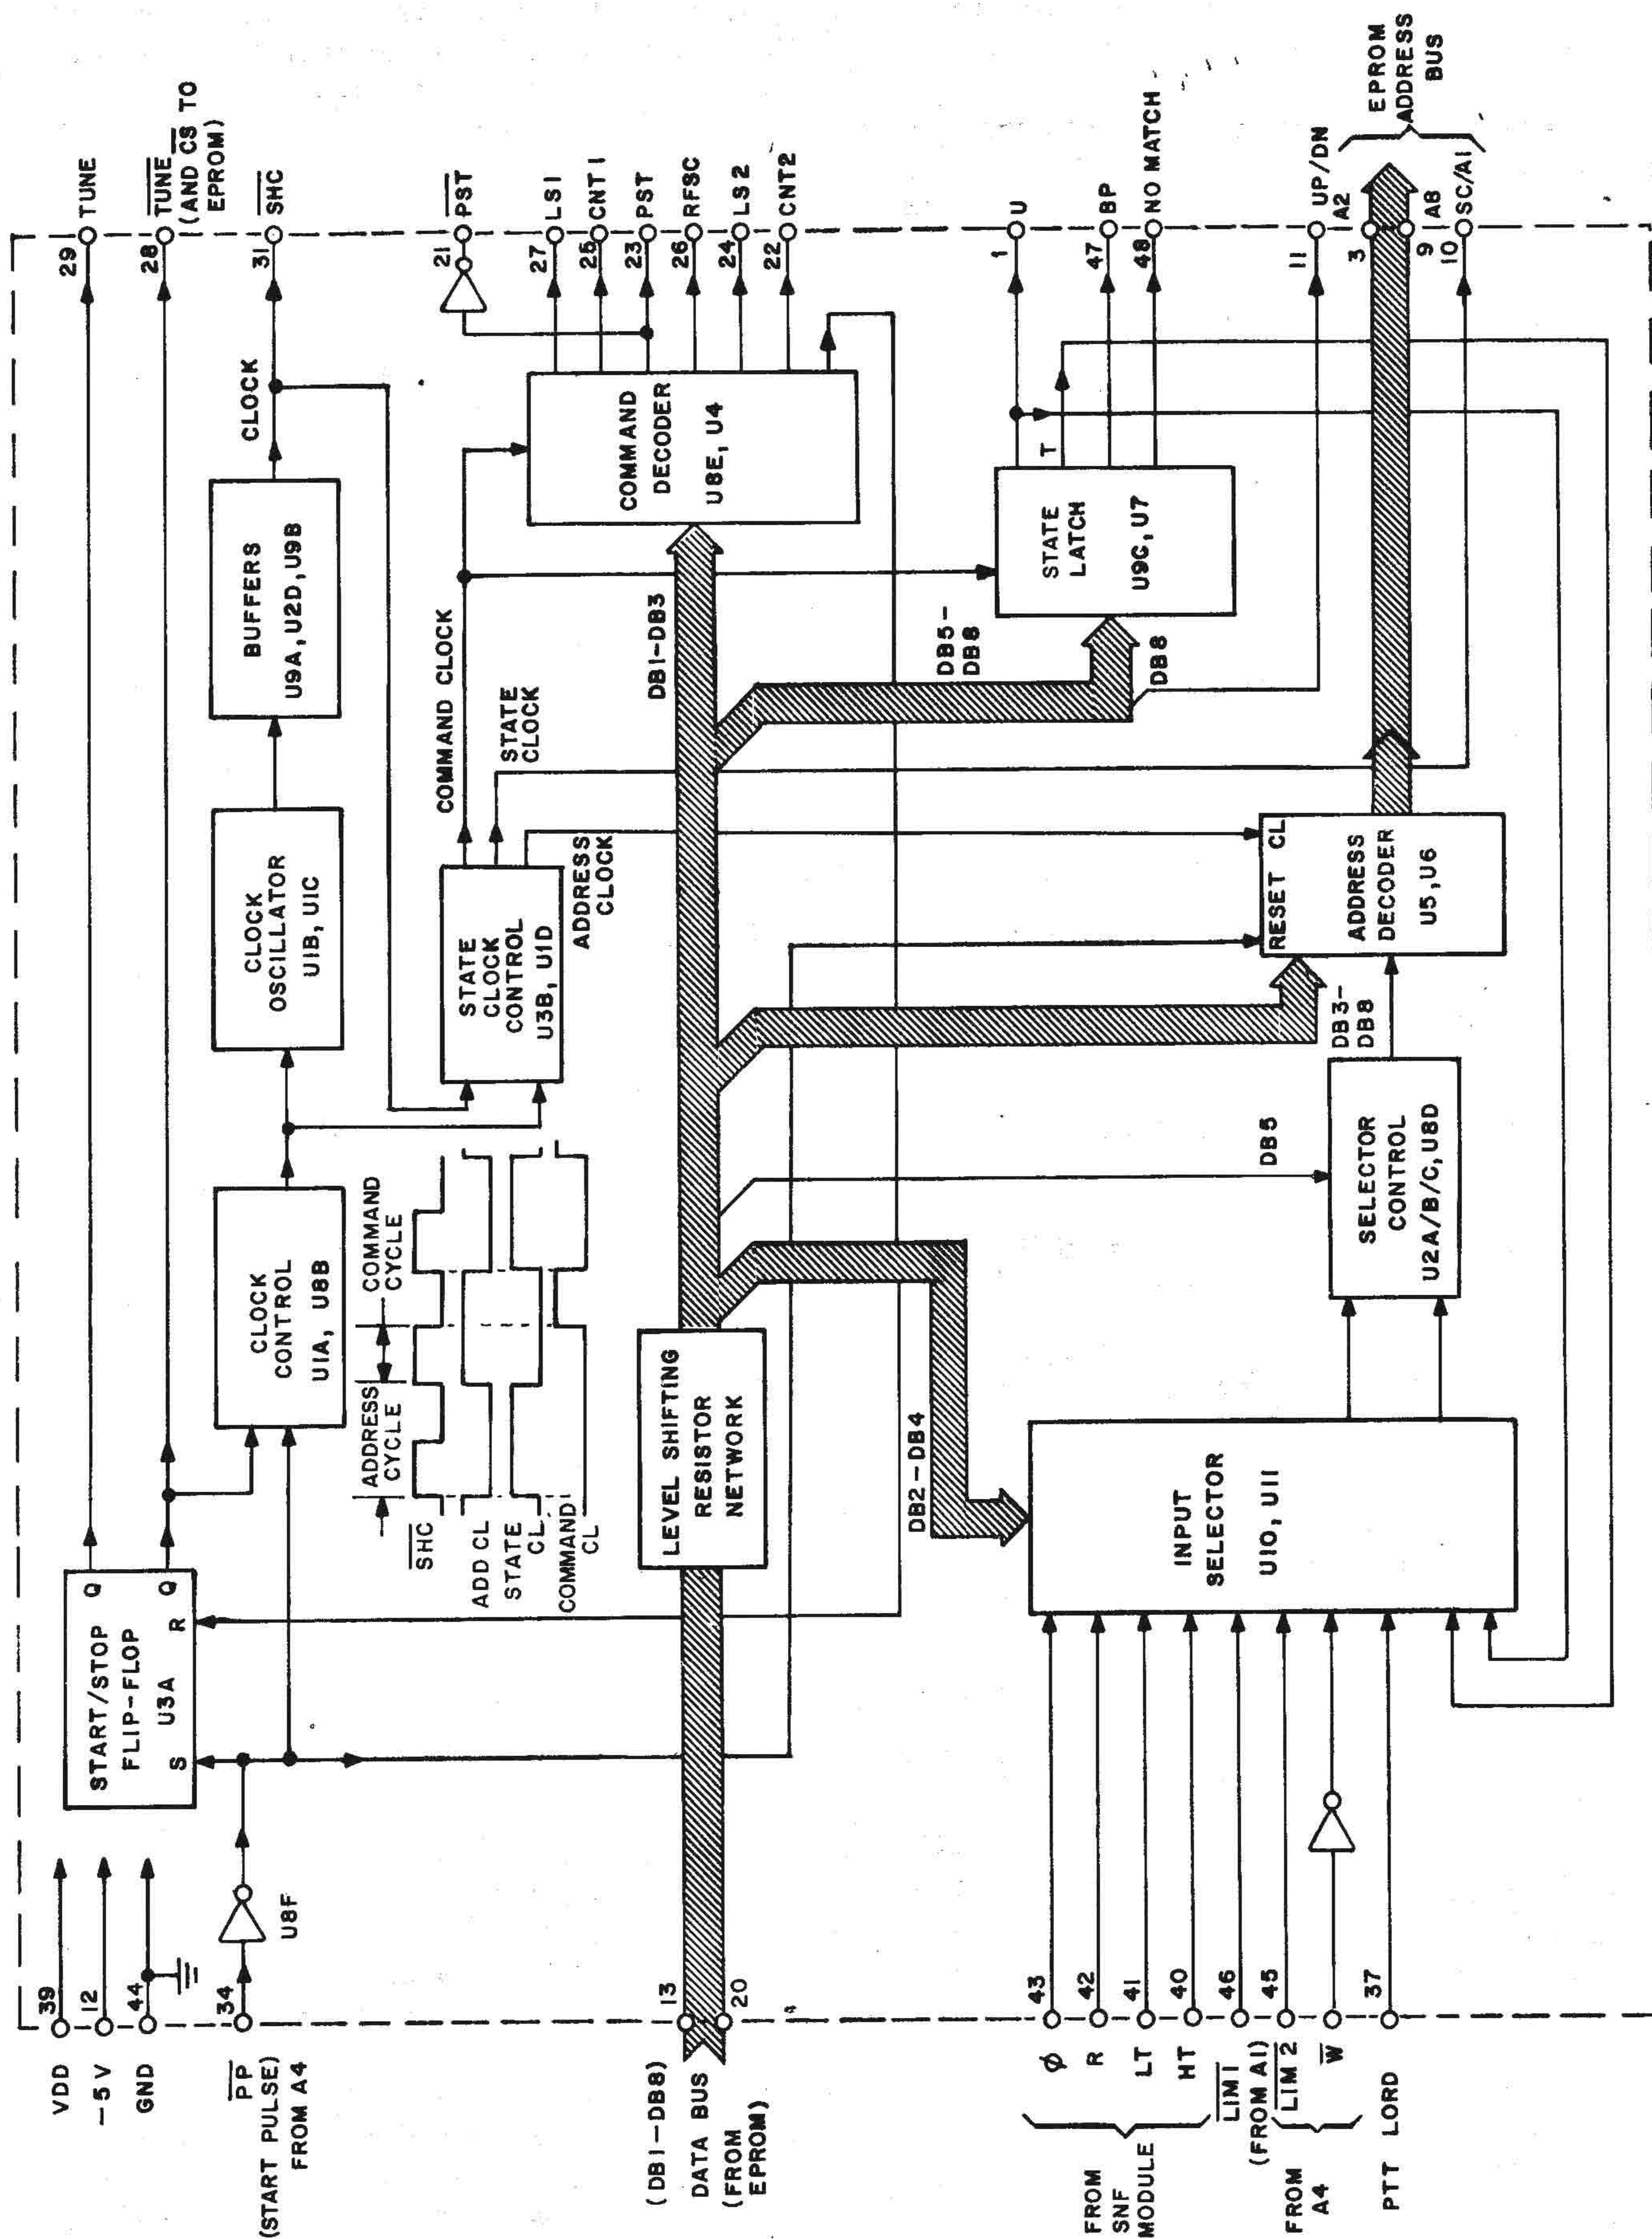

Fig. 2-33. Processor A3, block diagram
(8) Band capacitor control - microelectronic module A1. The value of the band capacitor in module MN 1A5A1 is determined by microelectric module A1, according to the three-bit frequency band code (F6 - F8) provided by microelectronic module A2. The band capacitor value depends on the frequency band, therefore it is not changed during the matching process.
f. Processor Microelectronic Module A3 (fig. 2-33, 2-34). See fig. 2-33 for the functional designations of the various circuits. Refer to para. c. for block diagram analysis.
(1) Start-stop flip-flop and clock circuits.